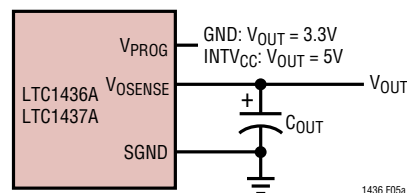
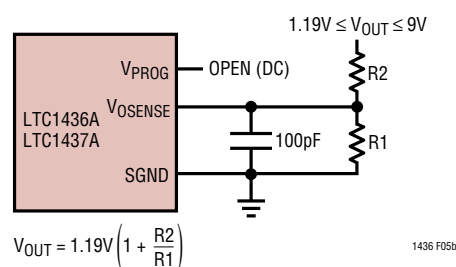

Figure 5a. LTC1436A/LTC1437A Fixed Output Applications
Figure 5b. LTC1436A/LTC1437A Adjustable Applications
The LTC1436A/LTC1437A family also has remote output voltage sense capability. The top of an internal resistive divider is connected to VOSENSE. For fixed 3.3V and 5V output voltage applications the VOSENSE pin is connected to the output voltage as shown in Figure 5a. When using an external resistive divider, the VPROG pin is left open (DC) and the VOSENSE pin is connected to the feedback resistors as shown in Figure 5b.